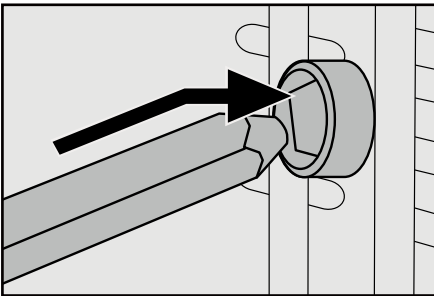

Fig. 1: Push the rotisserie (16) into the drive (1).
- ▶ Always use the tongs (12) to insert the hot rotisserie (16) into the appliance or to remove it.
- You can use the two skewer clamps (15) to fix the food onto the rotisserie (16). Loosen the restrainer (14) on the skewer clamps (15), push them so that the food is fixed firmly in between the clamps and then screw the restrainer (14) tight again.
- First push the end of the rotisserie (16) without the notch into the drive (1) (Figure 1):